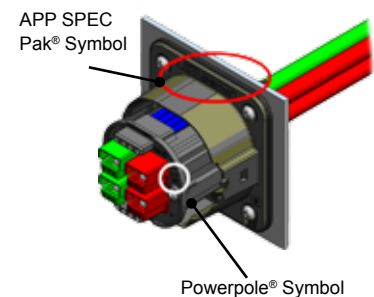

Figure 9
- Slide holder into shell. (See figure 9) **NOTE:** *The holder will only go in one way.*
- Using two(2) M3.5 x 15mm Phillips head screws, secure the holder to the shell.